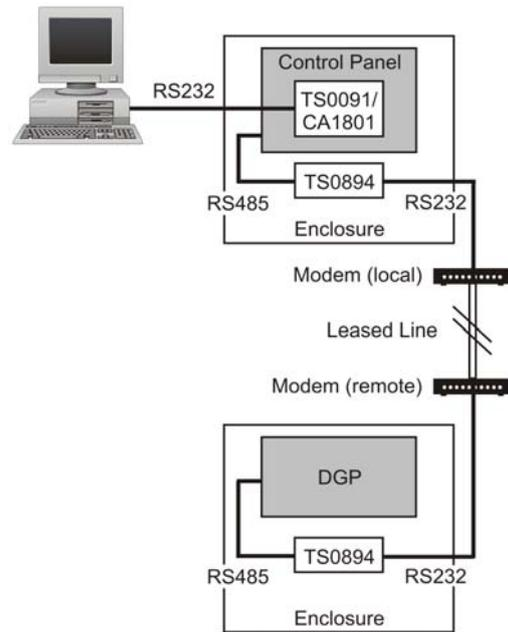

Figure 4: TS0894 used to enable communications over a leased line using modems.
- Connecting a control panel to a DGP via leased line and modems, see Figure 4.